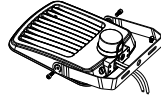

Figure 1
- Step 1: First install two big screws. (Figure 1)